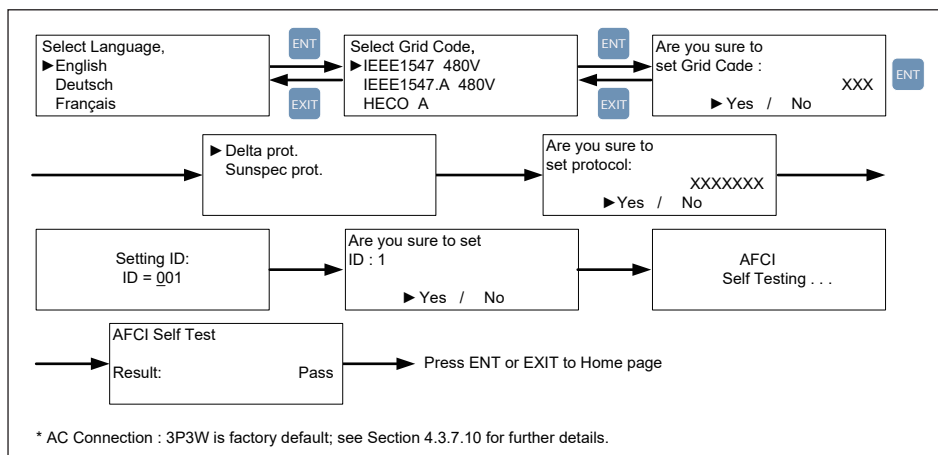

Figure 4-2: Grid code, language and ID settings for first start-up
- During the initial startup, when the LCD display become active, the inverter control will enter the **First Start-up** routine which allows installer to set Language, Grid code, RS-485 protocol and inverter ID (RS-485 address). **Figure 4-2** below, illustrates the display flow charts of the inverter startup.